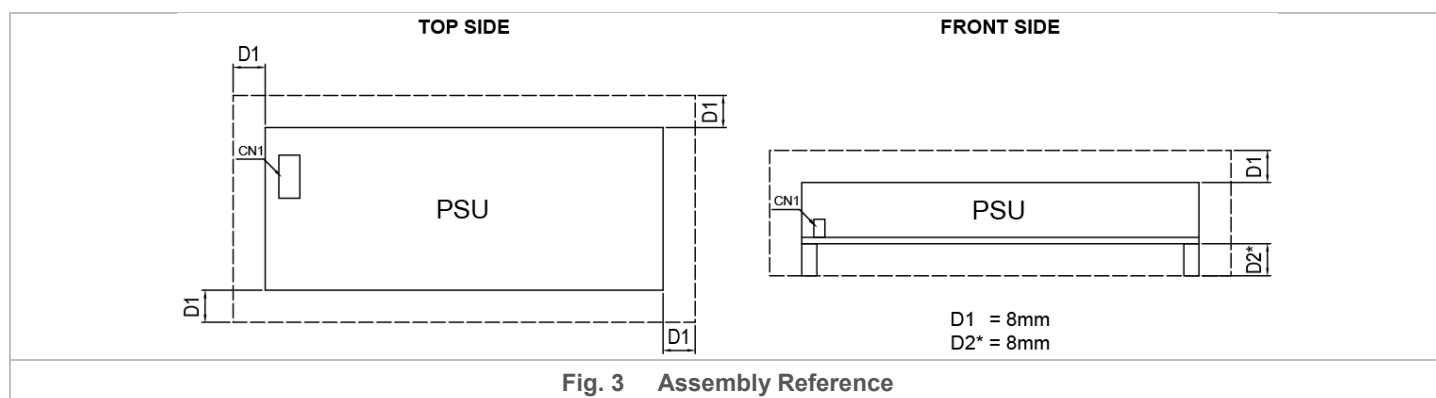

Fig. 3 Assembly Reference
- For safety reasons, please ensure the mounted device is kept at $\geq 8\text{mm}$ (0.31 inch) safety distance at all sides from other components and equipments (Refer Fig. 3). Please insert an insulation sheet between the system and product, if the safety distance is less than 8mm for D2*.